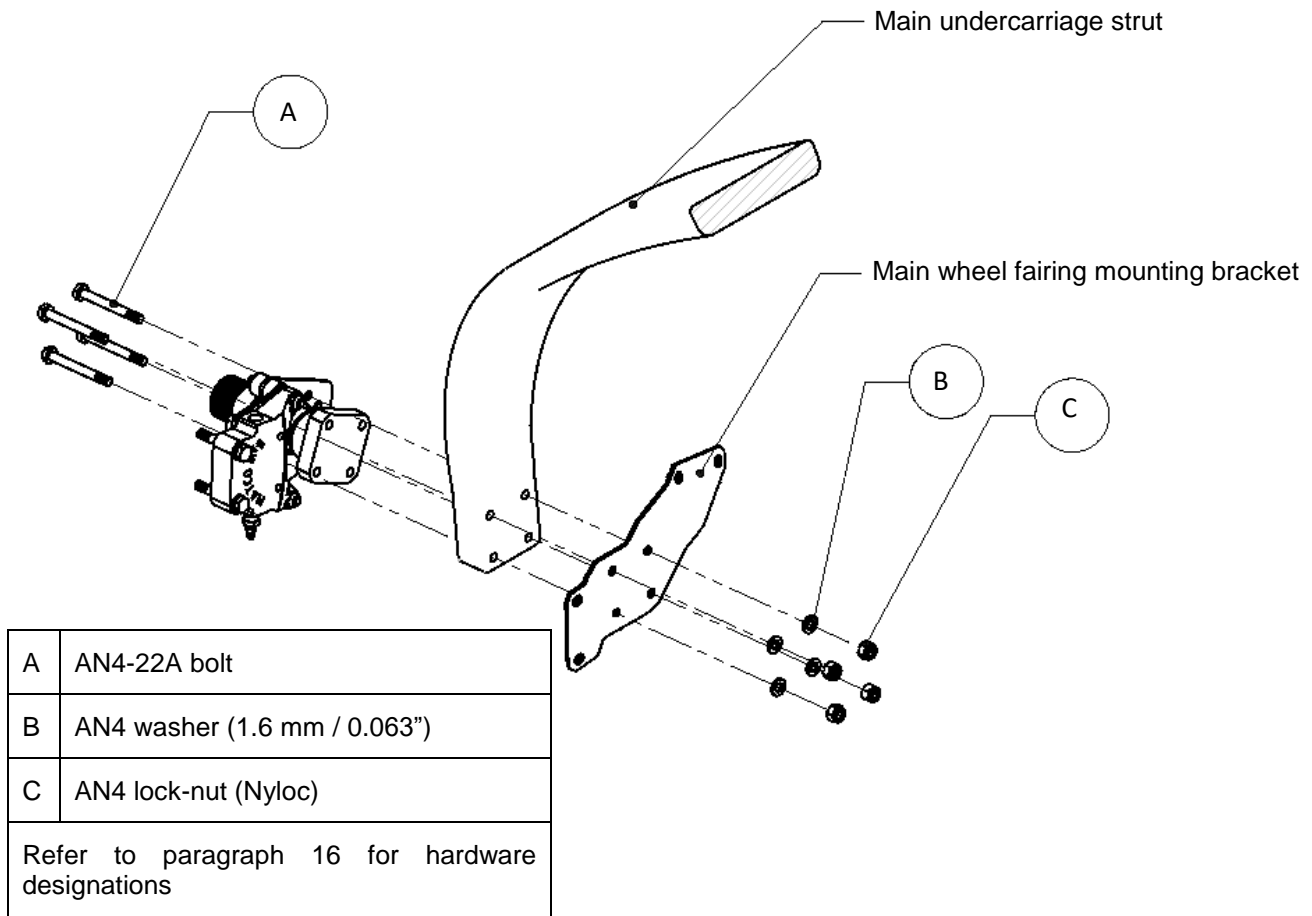

Figure 37: Main wheel axle installation.
- Tighten the lock-nuts and bolts mounting the axle, brake assembly and fairing mounting plate to the undercarriage strut sufficiently. Observe the correct placement of washers (refer to Figure 37) and note that the bolts are installed with their heads facing the wheel.